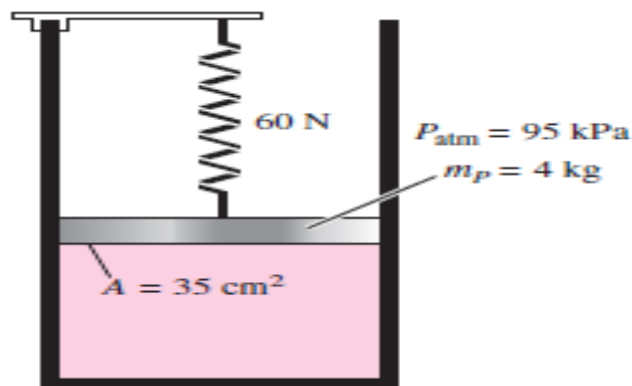

Figure 2
2. A gas is contained in a vertical, frictionless piston–cylinder device. The piston has a mass of 4 kg and across-sectional area of 35 cm² as shown in figure 2. A compressed spring above the piston exerts a force of 60 N on the piston. If the atmospheric pressure is 95 kPa, determine the pressure inside the cylinder.